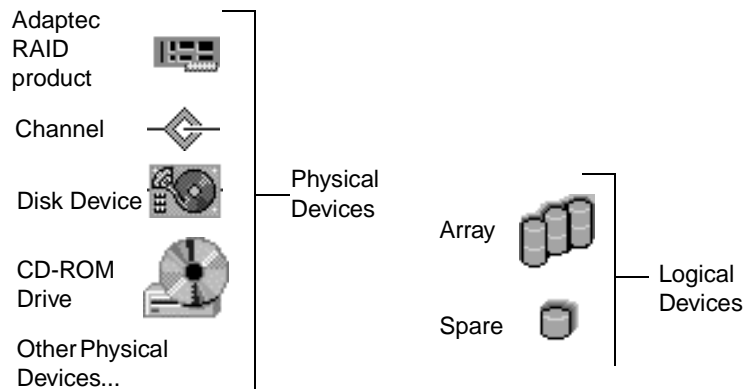

Figure 5-1. Storage Configuration Icons
- 2 When the Storage Configuration window appears, double-click the icon that represents the device for which you want to view information. Refer to Figure 5-1.